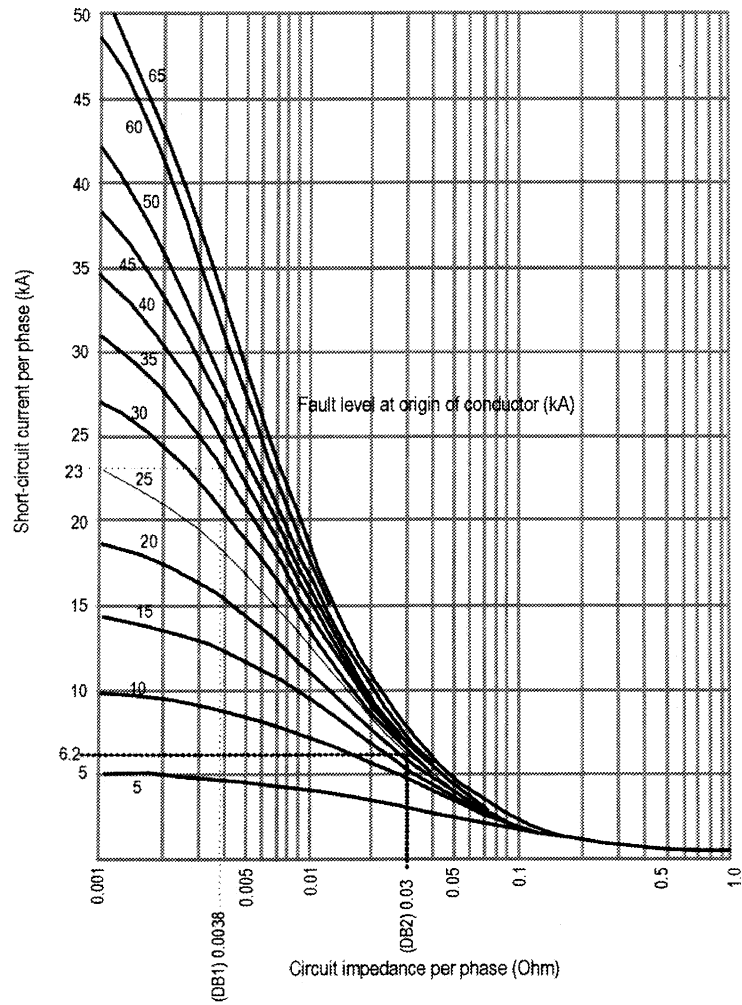

Figure 4.8 Prospective short-circuit currents
27. An energy distributor states that a prospective short-circuit current of 45 kA is to be assumed at a point of supply at a main switchboard, which feeds a main distribution board (DB1) through 35 m of 95 mm² cable. This distribution board supplies another distribution board (DB2) through 30 m of 35 mm² cable. Calculate the fault level at the second distribution board. (Hint use Table 4.1 and Figure 4.8).